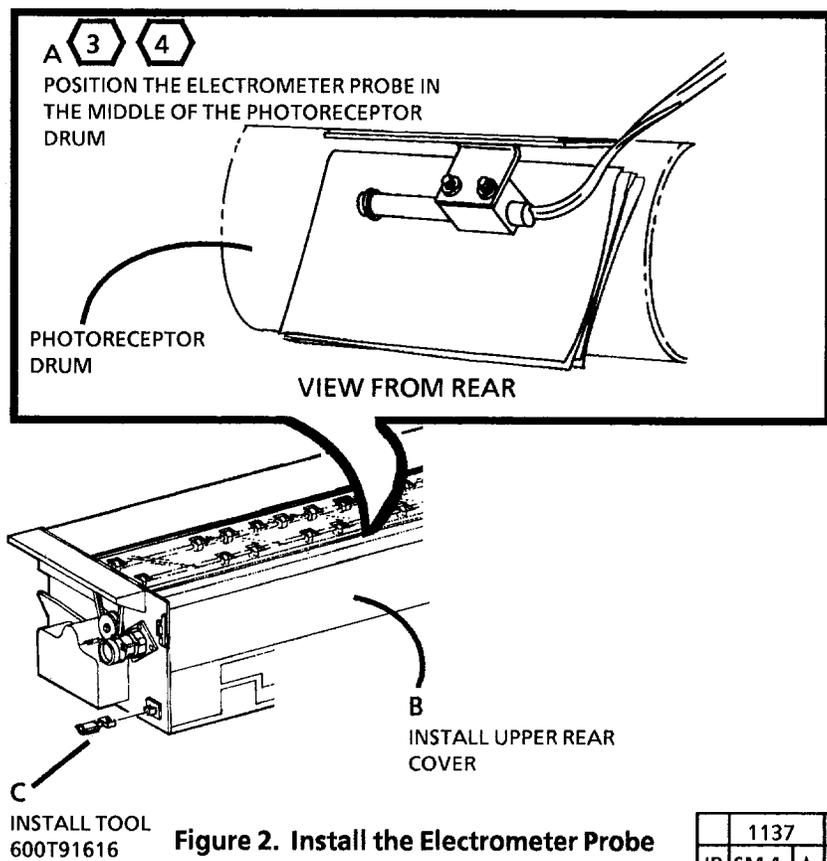

Figure 2. Install the Electrometer Probe
6. (FIGURE 2): INSTALL ELECTROMETER PROBE.